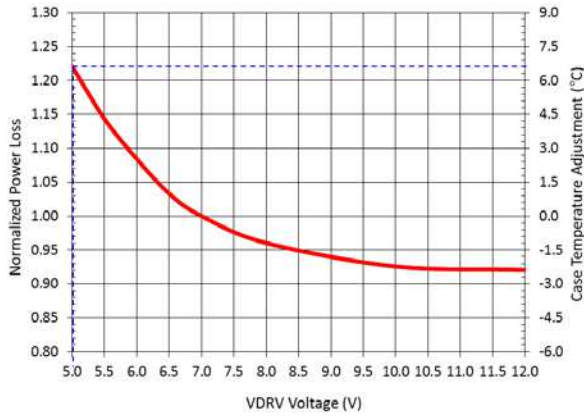

Figure 13: Normalized Power Loss vs. VDRV Voltage (Circuit of Figure 31)
5) Determine the MOSFET drive voltage normalizing factor with $V_{DRV}=5V$, which is 1.22 based on the dashed lines in Figure 13.